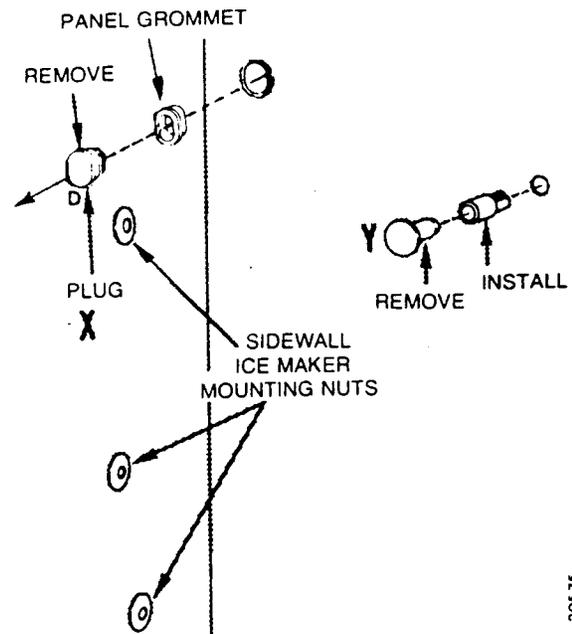

Figure 3 Inside view of freezer compartment
4. Using a screwdriver or putty knife, remove the oval shaped plug 'D' and install the white panel grommet (see figure 3).
5. Pry out plug button 'Y' and install the spacer nut as shown in figure 3. To install a spacer nut, press the prongs into the hole and tap the nut until it locks in place.